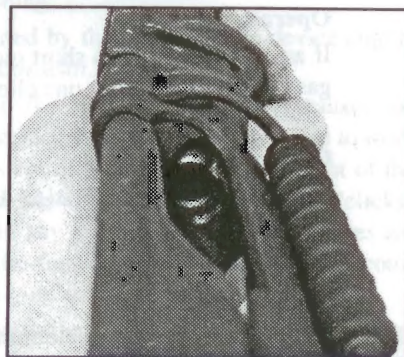

Fig. 11
**WARNING:** Visually confirm that chamber is empty of cartridges prior to cleaning or disassembly (Fig. 11).